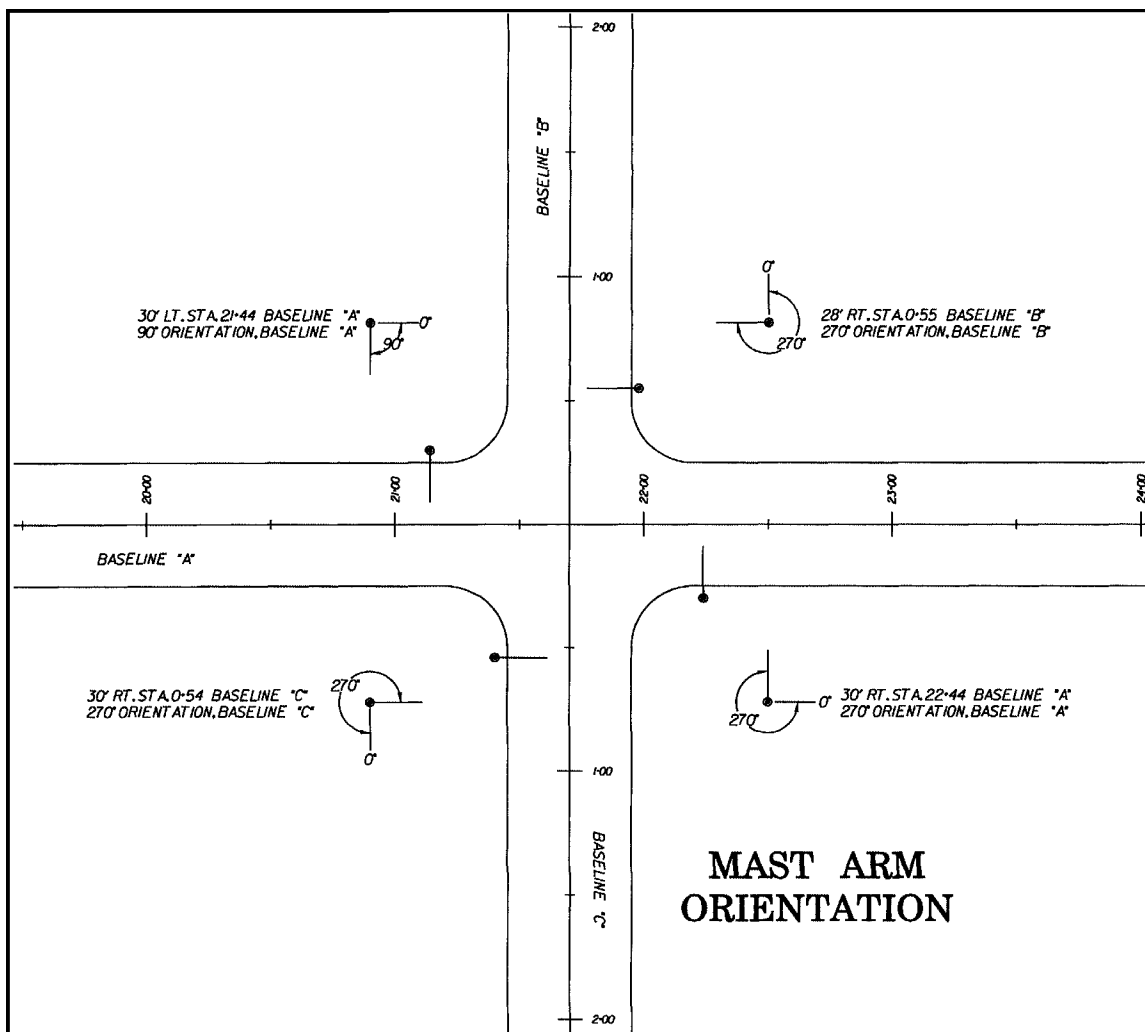

Figure 4-3: GUIDE TO DETERMINE MAST ARM AND LUMINAIRE ARM ORIENTATION
- Figure 4-3 provides guidance in determining arm and luminaire arm orientation procedures.